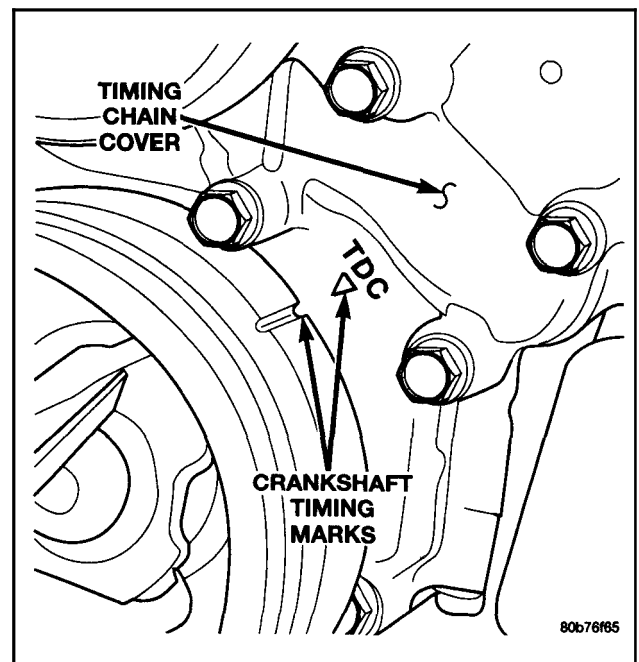

Figure 6-5
2. Using a mirror, locate the TDC arrow on the front cover (Figure 6-5). Rotate the crankshaft until the mark on the crankshaft damper is aligned with the TDC arrow on the front cover. The engine is now at TDC.